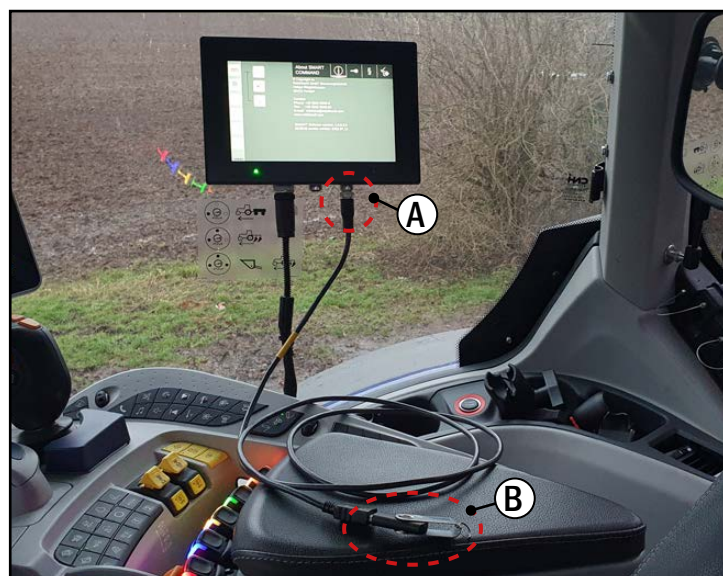

Fig. 117: Attaching the USB connection cable and USB stick to the terminal
5. Attach the USB connection cable to port 3 of the switched-on terminal (see Fig. 117 – A).
6. Attach the USB stick to the USB connection cable (see Fig. 117 – B).